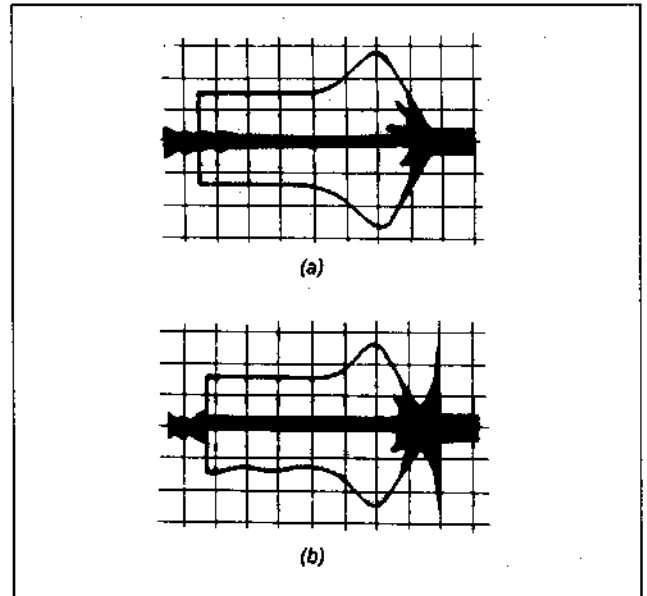

Fig. 4-8.
- 4) At this time, confirm that the exit free waveform is within the range shown in Fig.4-8 (a) and (b).